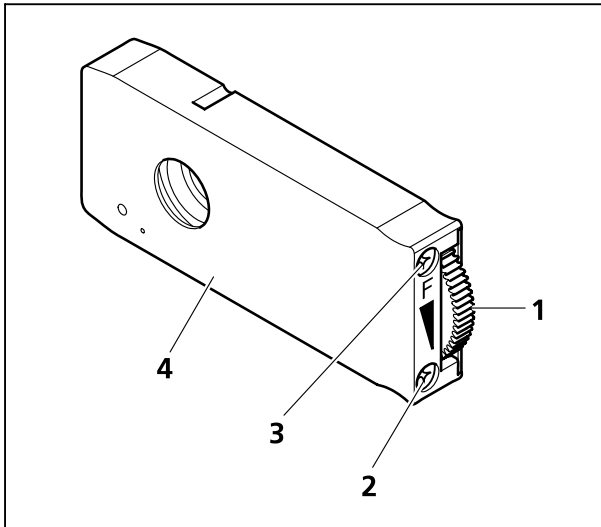

Fig. 4-36 Diaphragm slider 14x40 mm
- You will need one diaphragm slider 14x40 mm each (Fig. 4-36/**4**), inserted in the upper stand part as field diaphragm (**F**) and aperture diaphragm (**A**) in order to adjust the reflected light beam path according to KÖHLER.
- The diaphragm is opened by turning the knurled wheel (Fig. 4-36/**1**) of the slider up and closed by turning it down.
- The diaphragm can be centered to the beam path with both centering screws (Fig. 4-36/**2** and **3**) and the hexagon socket wrench SW 3.